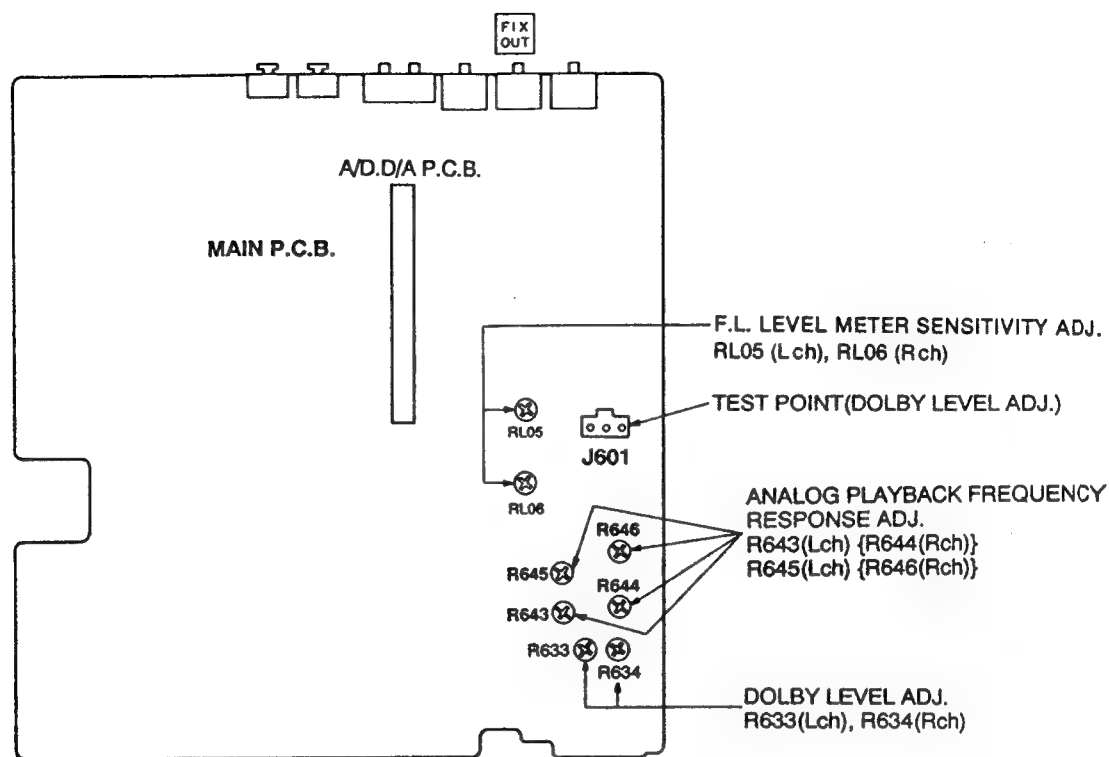

Fig. 25
- (1) While playing back the Dolby level tape (RFKZ0038), adjust the voltage at test point J601 to 33mV using R633 (Lch) and R634 (Rch) (See Fig. 25).
(See Fig. 25)
- (1) Load a **DCC Blank tape (RFKZ0033)** in the unit under test and place it in **REC PAUSE** mode.
- (2) Load the **CD Test disc (SZZP1054C)** in the CD player and play the second band (1 kHz, 0dB, L + R signal).
- (3) Adjust potentiometers **RL05 (Lch)** and **RL06 (Rch)** so the DCC unit's FL level meters indicate 0 to -2dB (See Fig. 25).